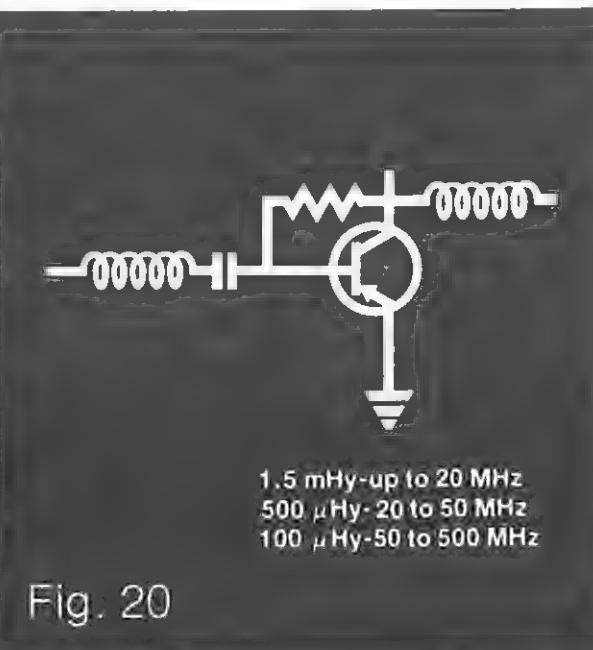

Fig. 20
4. In areas of high RF energy, the inductor approach is more effective than the shunt capacitor. An RF choke can be used in series with the input and output leads of the amplifier stage since the RF can enter a stage through either. This method and the values are shown in Figure 20.